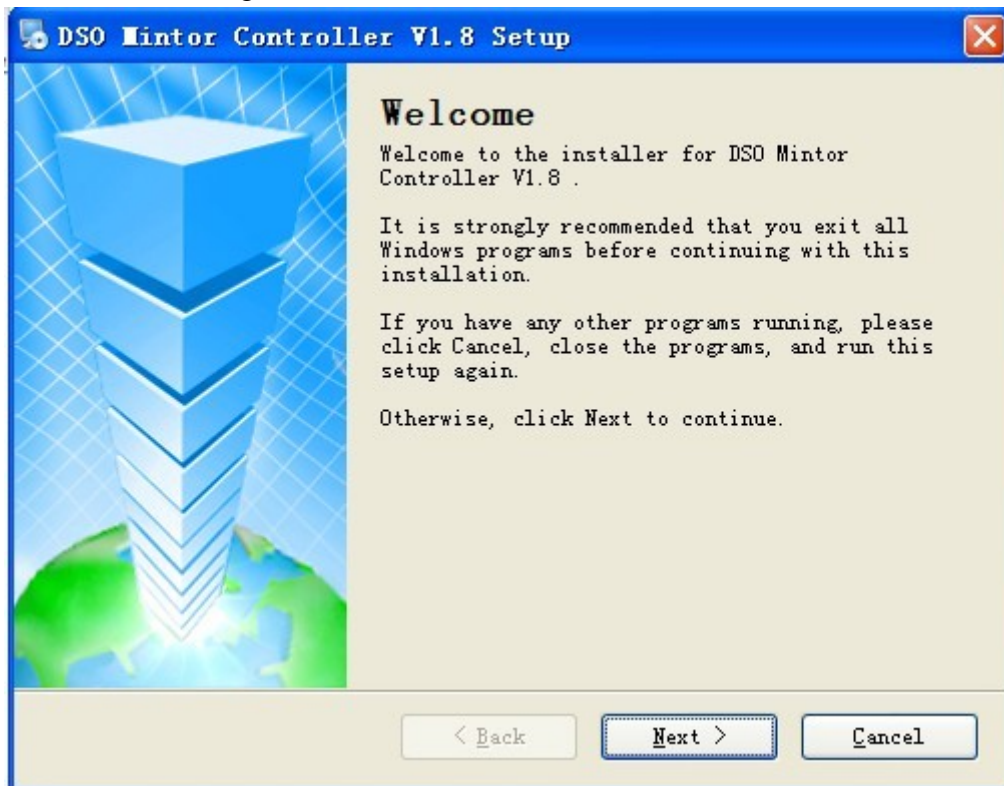
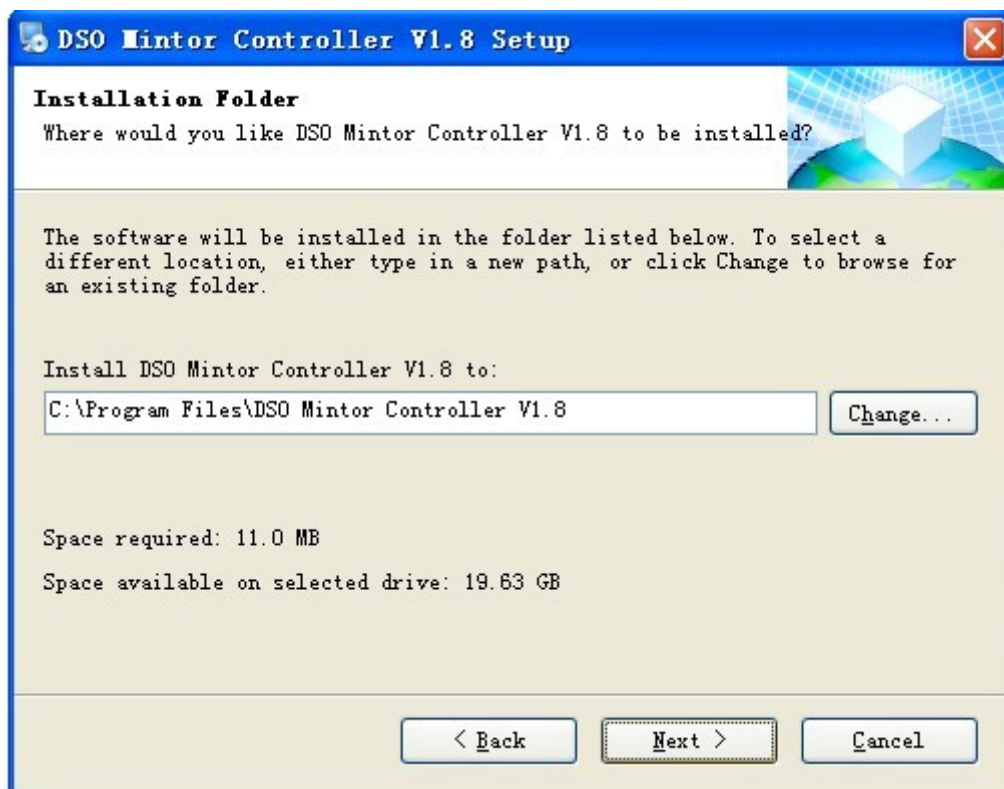
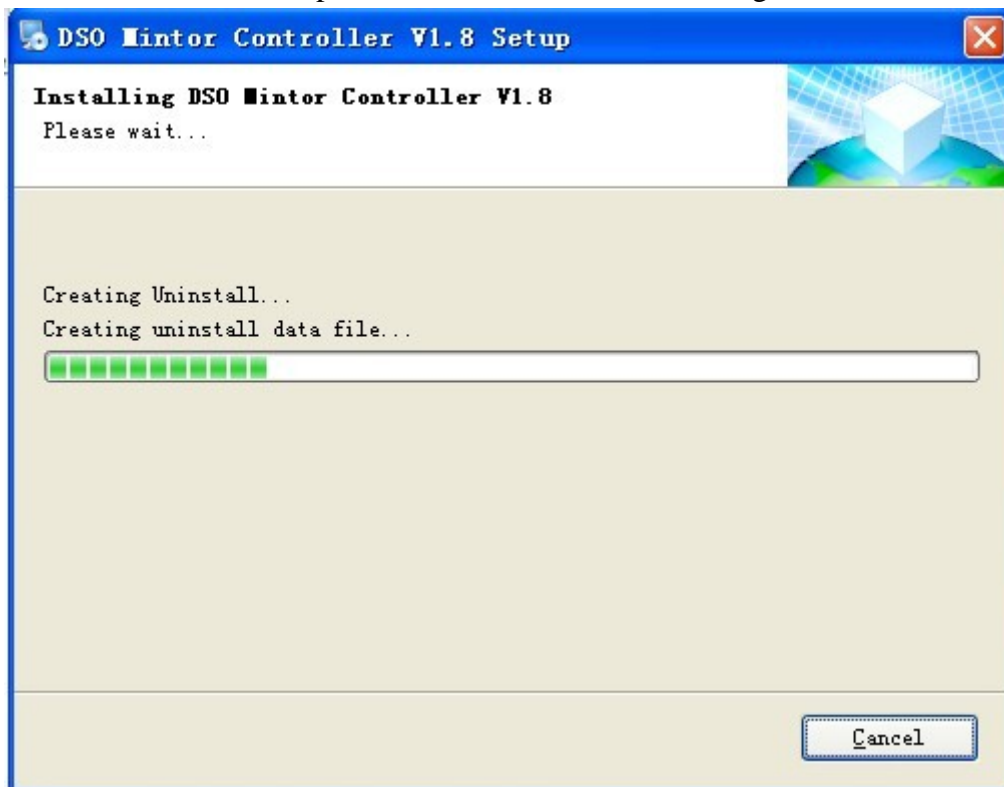

Figure 1-2
Figure 1-3
Figure 1-4
will pop up automatically to guide you through software installation, as shown in Figure 1-2 :
Step three : Read the prompt in Figure 1-2 then click the **NEXT (N)** button to enter the next step, as shown in Figure 1-3
Step four : In Figure 1-3, click the **CHANGE (H).....** button to specify the installation path of the software, then click **NEXT**. You can also click **NEXT** directly to use the default path. Enter the screen shown in Figure 1-4.